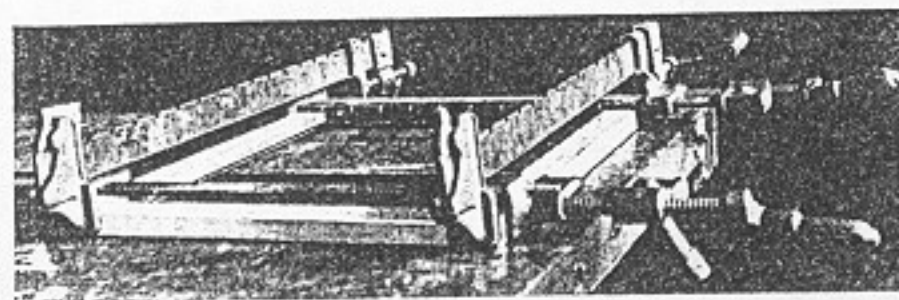
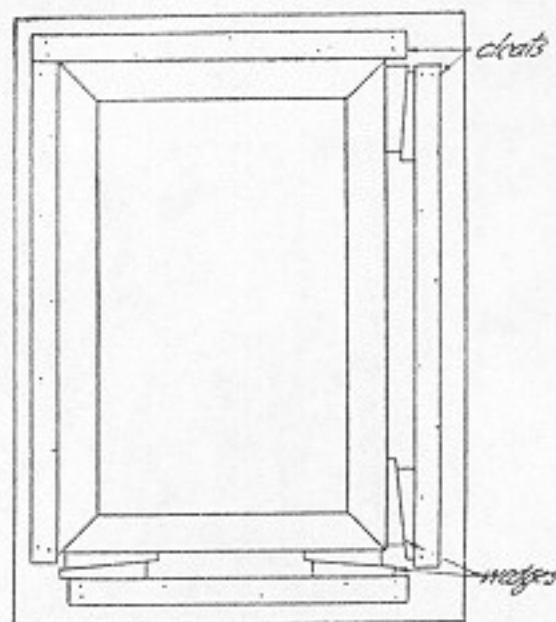

Fig. 231. Clamping mitered frame with four bar clamps.
Fig. 233. Gluing a picture frame by wedging.
5. An ordinary frame is clamped with four bar clamps. All clamps are placed at the corners, two of them at right angles to the other two (Fig. 231).
2. The frame is glued together. This may be done as shown in Figure 231, or by nailing four cleats to a board, as shown in Figure 233. The joints then are forced together by driving four double wedges at the three corners. A piece of paper is placed below each joint to prevent the frame from sticking to the board.